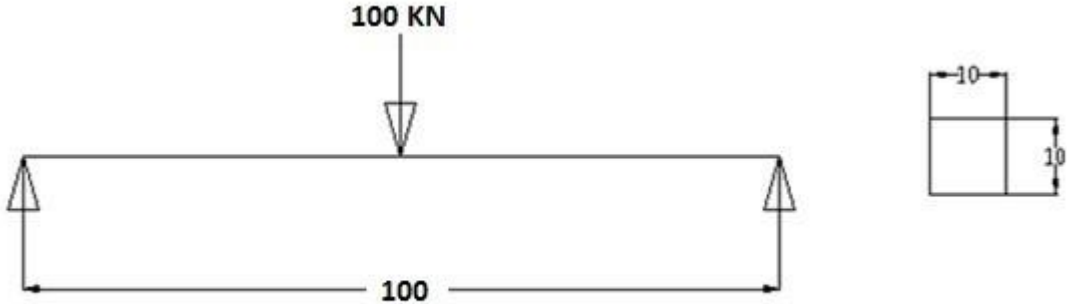

Figure 20 (a)
20. (a) Analyse the deflection and stresses in the beam shown in Figure 20(a). The cross section of the beam is 500 mm × 1500 mm. Take $E=210$ GPa.